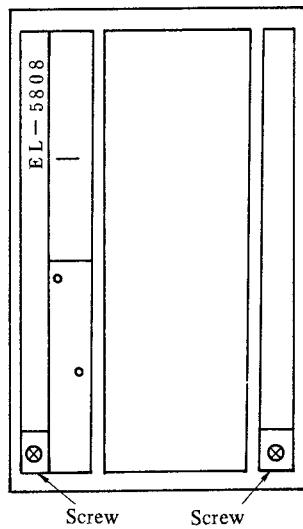

Fig. 1
2. Take out the bottom panel after loosing the two screws that is securing the bottom panel (Fig. 1).